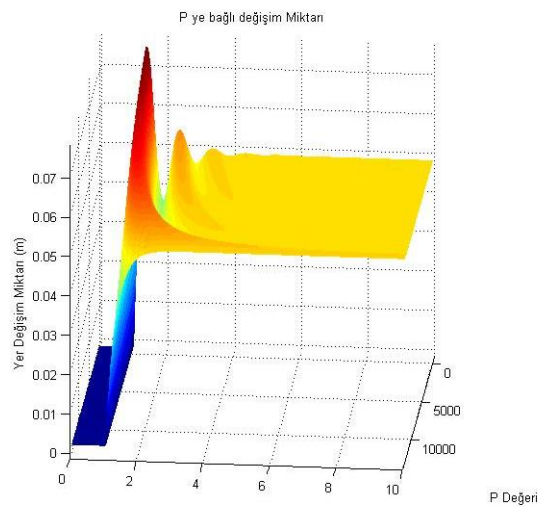

Figure 2
5. Assign  $I=0$ ,  $D=0$  and for each 100 increment of the parameter  $P$  up to 13000, plot the displacement-time graph of the vehicle body in terms of the parameter  $P$  in 3D graph as shown in Figure 2.